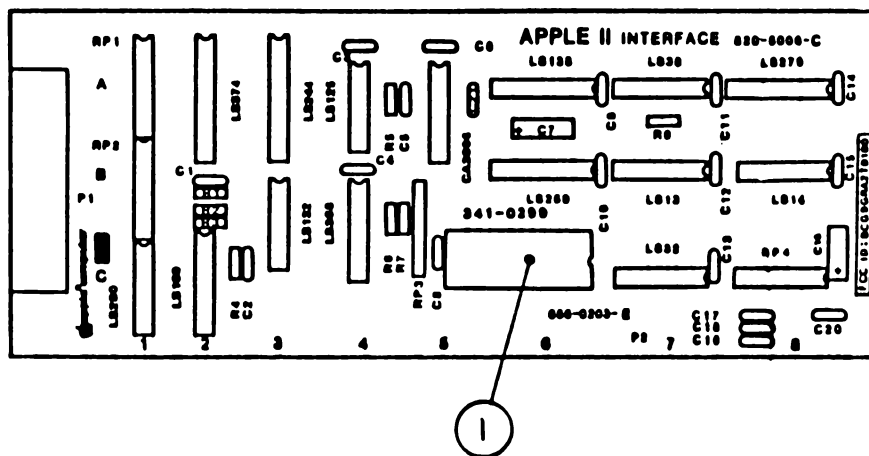

FIGURE 2
- IPL.3 Profile Interface Card (Figure 2)
❑ PROFILE INTERFACE CARD (Figure 2)